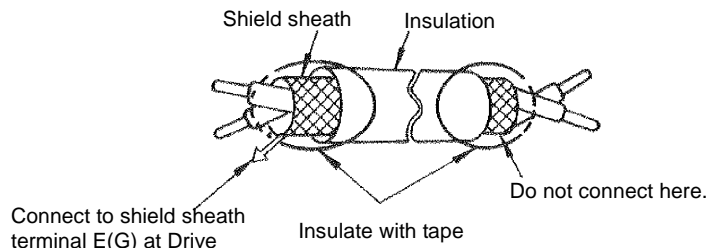

Fig 2.10 Preparing the Ends of Shielded Twisted-Pair Cables
4. Use twisted-pair or shielded twisted-pair cables for control circuits to prevent operating faults. Prepare cable ends as shown in Figure 2.10.